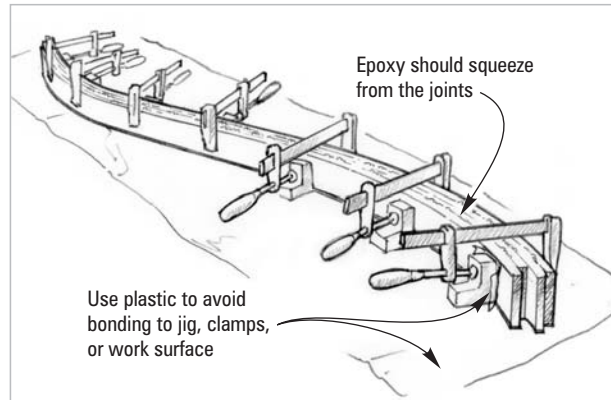

Figure 3-9 Clamp the appropriate number of coated strips into the jig. Trim the stringer to size after the epoxy is fully
4. Clamp the strips to the jig until the epoxy cures (*Figure 3-9*). Use clamps, wedges, staples or small nails to apply enough pressure to squeeze a small amount of epoxy from each joint.